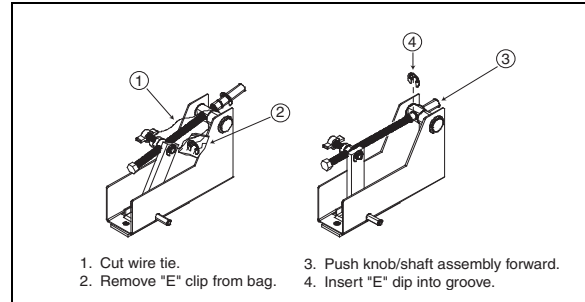

Fig. 2 Constant volume valves.
- "E" clip supplied for CVV adjustment mechanism. Must be inserted by installer (see Figure 2 on the next page).